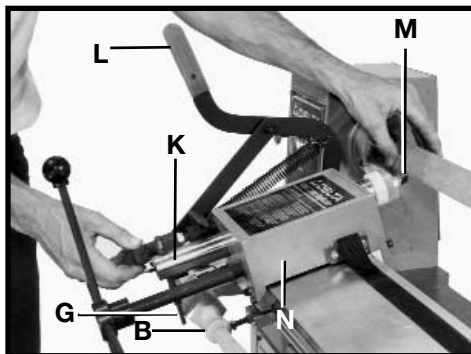

Fig. 82
Mount the workpiece between the lathe centers and lock tailstock in position on the lathe bed. Adjust the tool advancement arm (K) Fig. 82, so the follower arm (G) is against the largest diameter of the turning (B) Fig. 82. Pull spring handle (L) back and move the tool advancement arm (K) back one notch (1/8"). With the tool bit (M) clear of the workpiece, apply power to the lathe. Move the duplicator carriage (N) to the right two or three inches and engage tool advancement arm (K) to make the initial cut to round off the workpiece. **NOTE:** When a flat surface is needed at the ends of the final cut, move the carriage (N) left and rough cut up to the flat, and then to the right to continue the rough cut. This action will keep the wood from splintering.